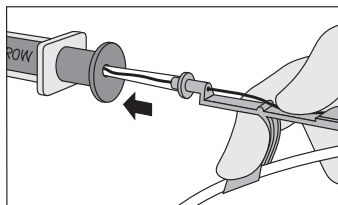

Figure 3
- Place tip of Arrow Advancer – with "J" retracted – into the hole in rear of Arrow® Raulerson Syringe plunger (refer to Figure 3) or introducer needle.